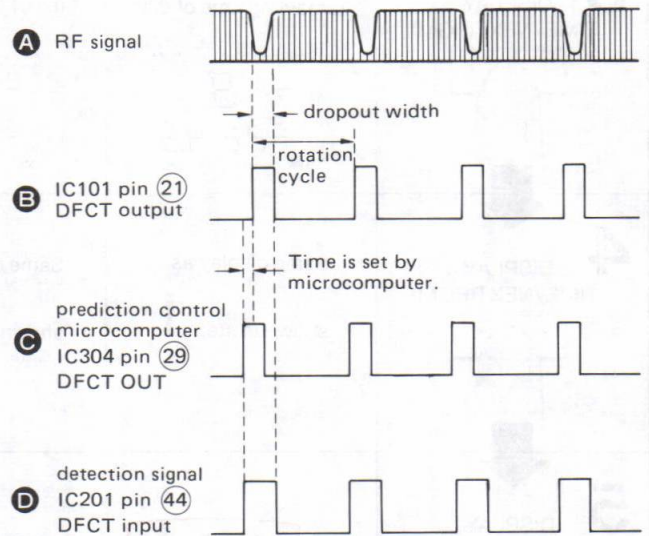

Fig. 2 Defect Detection Waveforms
Refer to Figures 2 and 3 for the following explanation of operation. When there is a defect on the disc, the RF signal is cut (A), envelope detection is done inside IC101 (the same as the conventional method) and output is from pin (21) (B).